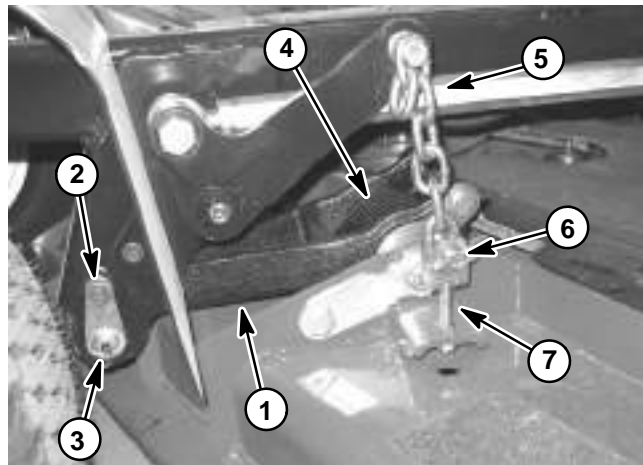

Figure 1
2. Disconnect pull link from each side of machine (Fig. 1):
7. Remove four (4) ring pins and clevis pins that secure deck lift chains to adjustment clevises on cutting deck (Fig. 1).
2. Install four (4) clevis pins and ring pins to secure deck lift chains to adjustment clevises on cutting deck (Fig. 1).
5. Align pull link to carrier frame and attach link with retainer pin. Secure retainer pin to frame with shoulder screw (Fig. 1).